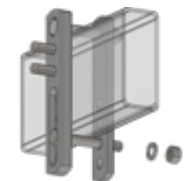

Figure 9
2. Insert the second $\frac{3}{8}$ " x $3\frac{1}{4}$ " bolt through the open hole closest to the bottom of the trailer frame. (Figure 9)